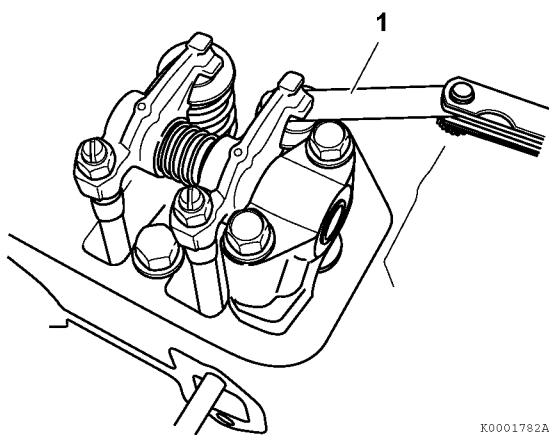

Figure 6-37
3. Insert a feeler gauge (1, **Figure 6-37**) between the rocker arm and valve cap, and record the measured valve clearance. (Use the data for estimating the wear.)